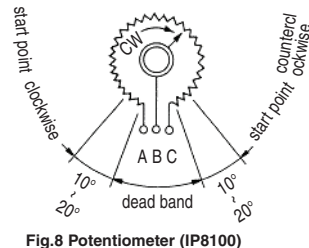

Fig.8 Potentiometer (IP8100)
- (3) Loosen potentiometer set screw while applying power and ensuring output current, then rotate the potentiometer 10-20° away from the dead band (see Fig.8) to decide the start point. Settle the potentiometer with the screws again.